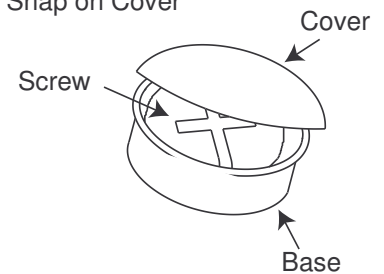

Fig. 3
- Note: For ease of installation, an additional person is recommended. Insert cabinet into wall opening. (Fig. 3) Ensure the cabinet is plumb and level. If necessary use a carpenter's level and shim corners of cabinet. Secure to wall studs through the four (4) mounting holes inside cabinet, using the screws that have been placed into the plastic bases. (Fig. 4) Do not over tighten the mounting screws as the body side wall may bend and prevent proper shelf installation. Only tighten screws until they are flush with the body.